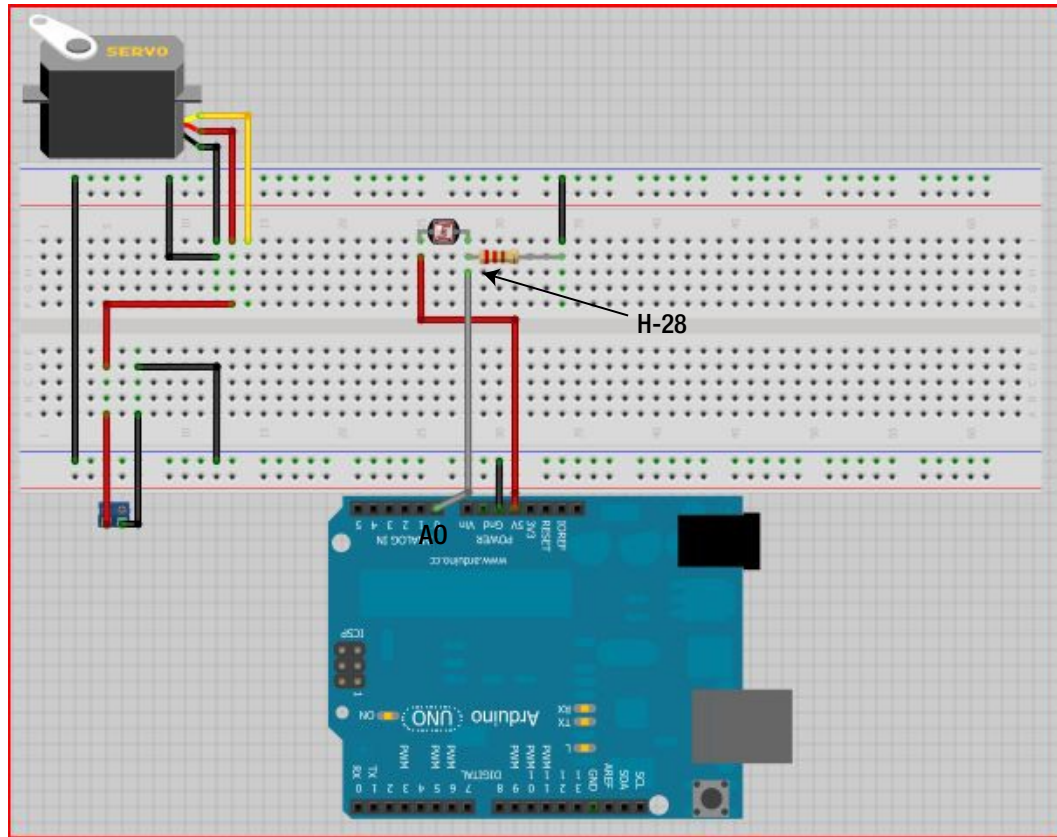

Figure 27-13. Connect analog pin 0 of the Arduino to the photoresistor
12. Run a jumper wire (we used green) from analog pin 0 (A0) on the Arduino to H-28 on the breadboard. Figure 27-13 illustrates this process.